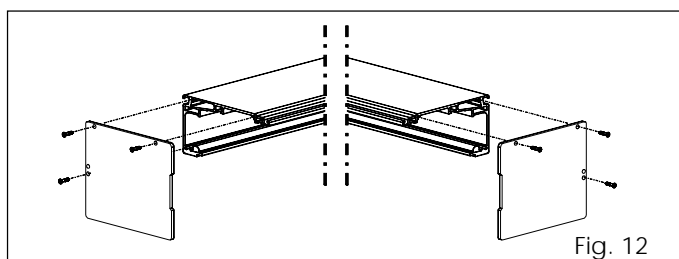

Fig. 12
- Fit the side panels as shown in figures 12.